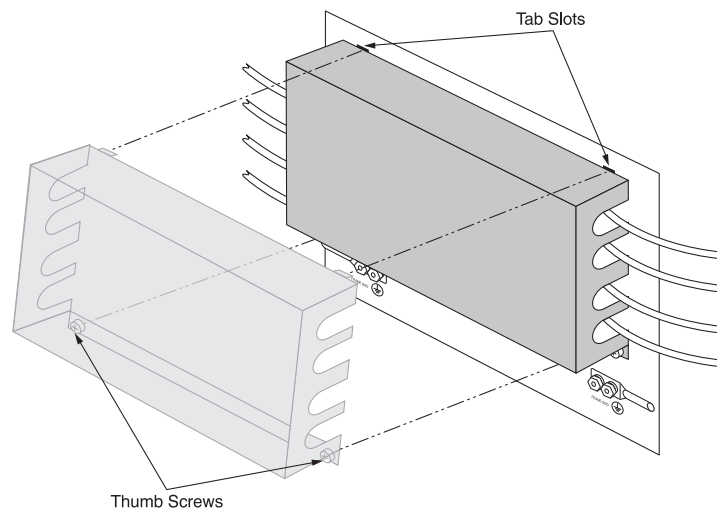

Figure 16 Installing the Power Safety Cover
1. Remove the power safety cover; see Figure 16
5. Install the power safety cover; see Figure 16